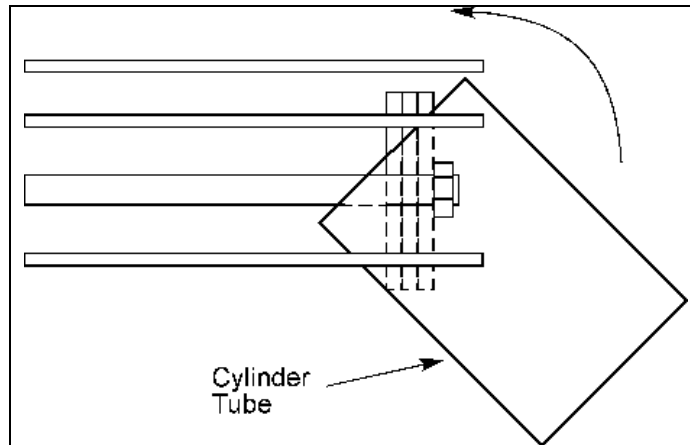

**Figure 1 – Scraper Locations**
9. Remove the two scrapers. One scraper is found in the cylinder head, the other is in the gland. Figure 1 shows their location.